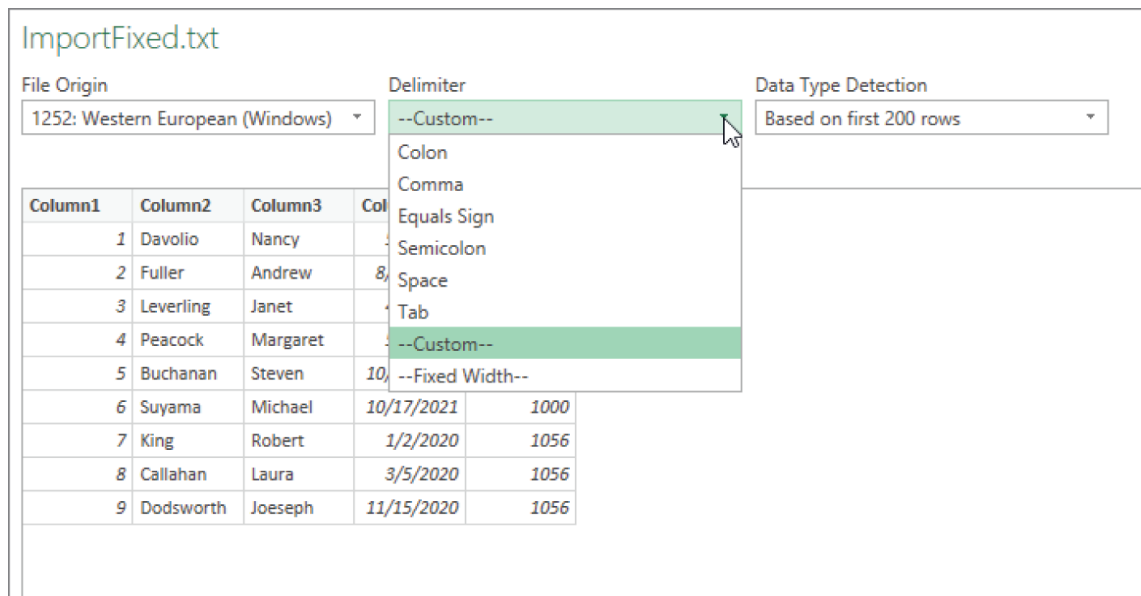

Figure 3.6: The import delimiter choices
3. Navigate to the file named `ImportFixed.txt` to import and open it. Excel displays how it interprets the file. In this case Excel reports that it's using a custom delimiter and there's nothing in the delimiter text box. I don't know why it doesn't choose the Fixed Width option that you can see in Figure 3.6, but I suspect that passing an empty string delimiter is the secret code for fixed width.